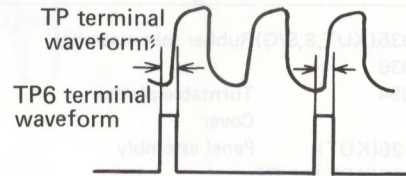

Fig. 5-3
3. Adjust VR1 (for 33-1/3 rpm) and VR2 (for 45rpm) on the circuit board ass'y in order to bring the rising edge of the TP5 terminal waveform within the width of the TP6 terminal waveform as shown in Fig. 5-3.